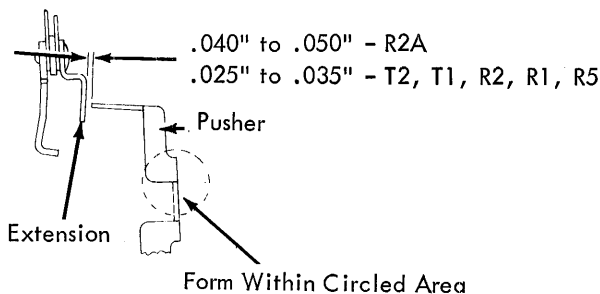

FIGURE 25A. Latch Pushers
- c. When removal of the Latch Pusher Assembly is required, scribe (for reinstallation reference) the pusher plate to power frame relationship. If the original relationship can be maintained, the adjustments will not have been destroyed by removal. In case of loss of relationship, position the pusher plate as nearly as possible for the prescribed latch to pusher clearances (Fig. 25A) and proceed with the following adjustments.
2. Latch Pushers T2, T1, R2, R1, & R5 (Fig. 25A) - Form to clear their respective latch extensions by .025" to .035".
3. Latch Pusher, R2A (Fig. 25A) - Form to clear latch extension by .040" to .050".